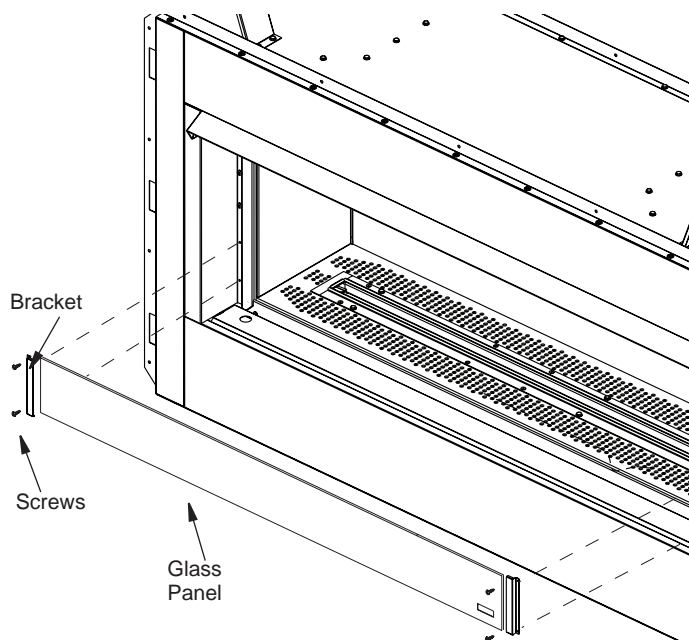

Figure 25 - Installing Glass Panel
The glass panel assembly should be installed after the fireplace is completely framed and finished. The brackets are attached to the front side face of the fireplace using two screws as shown in Figure 25. Position the glass panel in the bracket so that it is securely in place. The glass panel can be placed in two different height locations.
3. Remove glass panel if installed (Figure 25, page 13).